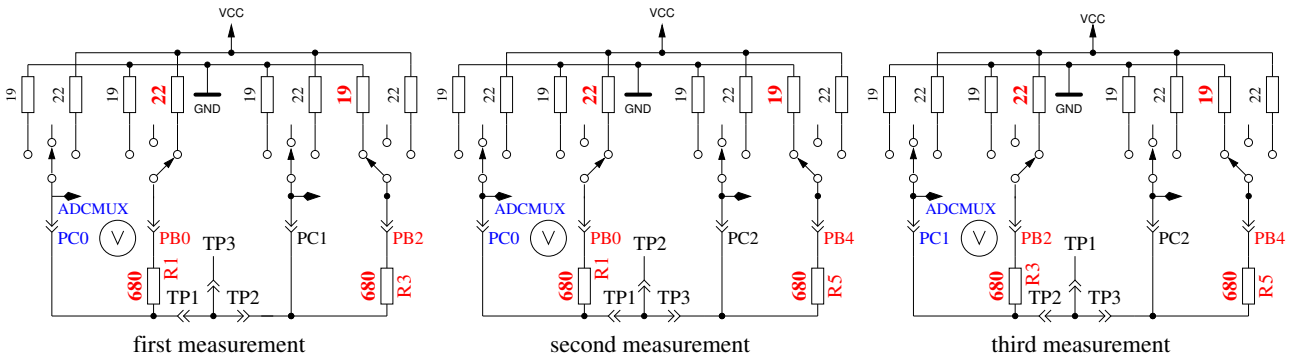

Figure 5.43: Comparison of 680Ω resistors
2. **Comparing of the 680Ω resistors.** In row 1 the cryptic text “+RL- 12 13 23” is shown. Meaning of this is as follows: The RL is the short form of Resistor Low meaning the 680Ω resistors. The 12 stand for: resistor at pin 1 is connected to VCC (+) and resistor at pin 2 is connected to GND (-). The result of this measurement is displayed in row 2 at the first place as difference to the theoretical value. In row 1 follows now a “13” which means, that the first connection of measurement 1 is still connected with 680Ω to VCC but that the resistor of pin 3 is connected to GND. The result is displayed in the middle place of row 2 as difference to the theoretical value. The last measurement of this test “23.” means that now the resistor at pin 2 is connected to VCC (+) and the resistor of pin 3 is connected to GND. The result of measurement is displayed at the last place of LCR row 2 as difference to the theoretical value. Please remember, that the resolution of the ADC is about 4.88mV! The measurement situation is also shown in figure 5.43. The theoretical value with respect to the internal resistance of the pins should be: $\frac{5001 \cdot (19+680)}{(19+680+680+22)} = 2493$.